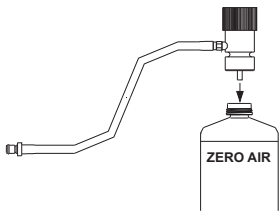

Figure 5
5. Install the regulator on the zero air cylinder reference gas (Figure 5).